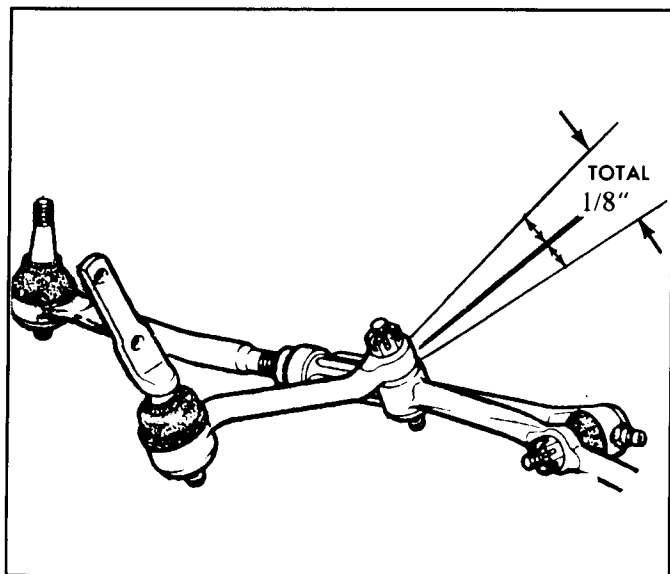

Fig. 3B6-7--Checking Idler Movement
- As near the relay rod end of the idler arm as possible, exert a 110 Newton (25 pound) force upward and then downward while noticing the total distance the end of the arm moves. This distance should not exceed a total acceptable movement of 1/8 inch (Fig. 3B6-7). It is necessary to ensure that the correct load is applied to the arm since it will move more when higher loads are applied. It is also necessary that a scale or ruler be rested against the frame and used to determine the amount of movement because the actual movement can be over-estimated when a scale is not used. The idler arm should always be replaced if it fails this test.
Refer to procedure for **RELAY ROD REMOVAL**, and to Fig. 3B6-5 before removing idler arm.